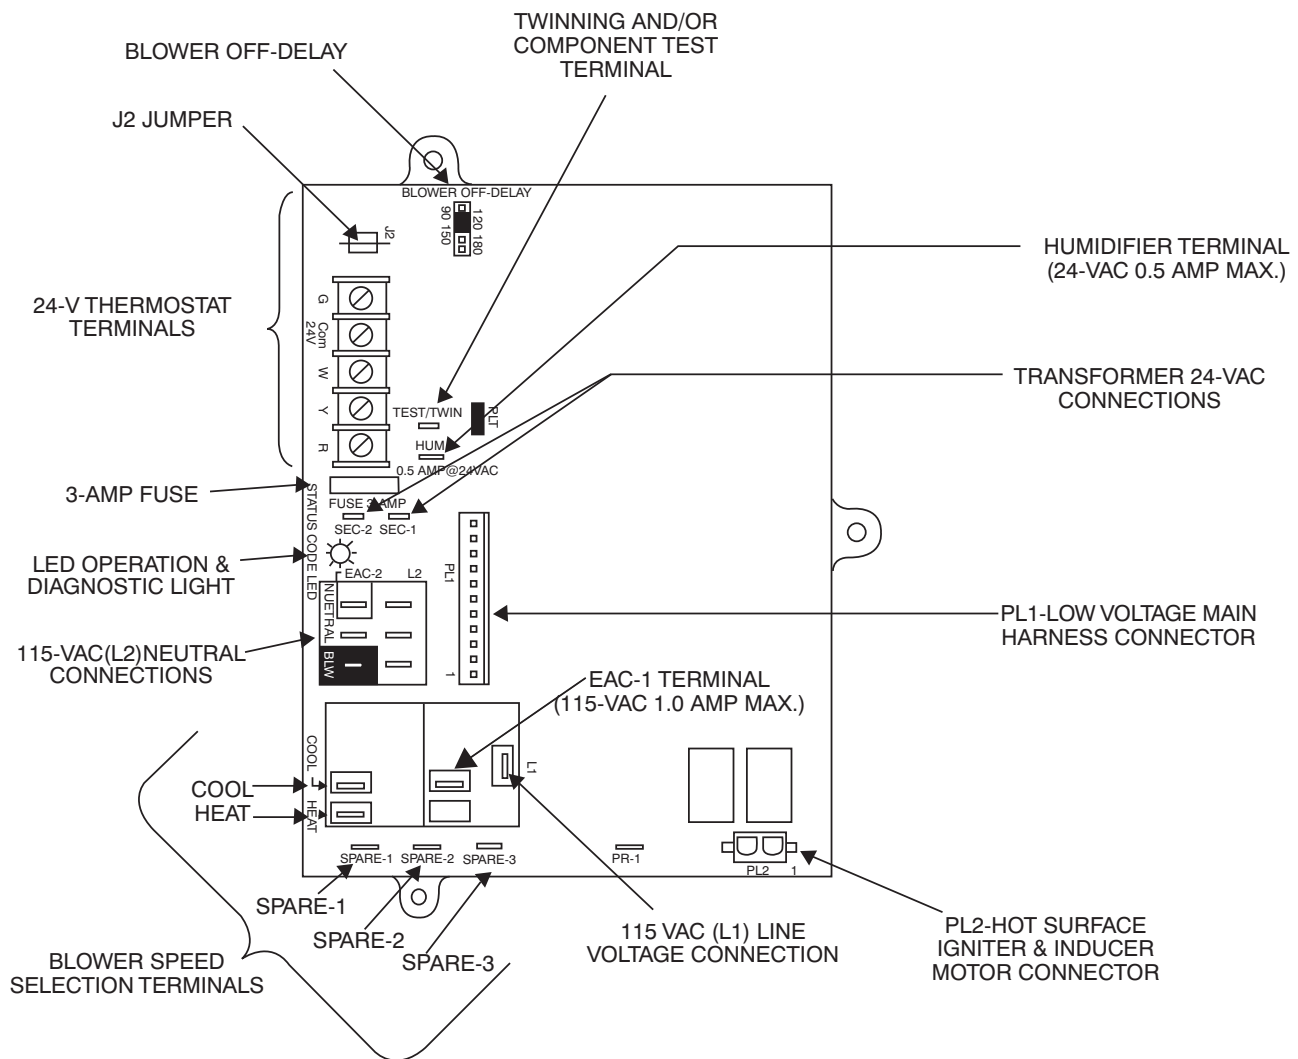
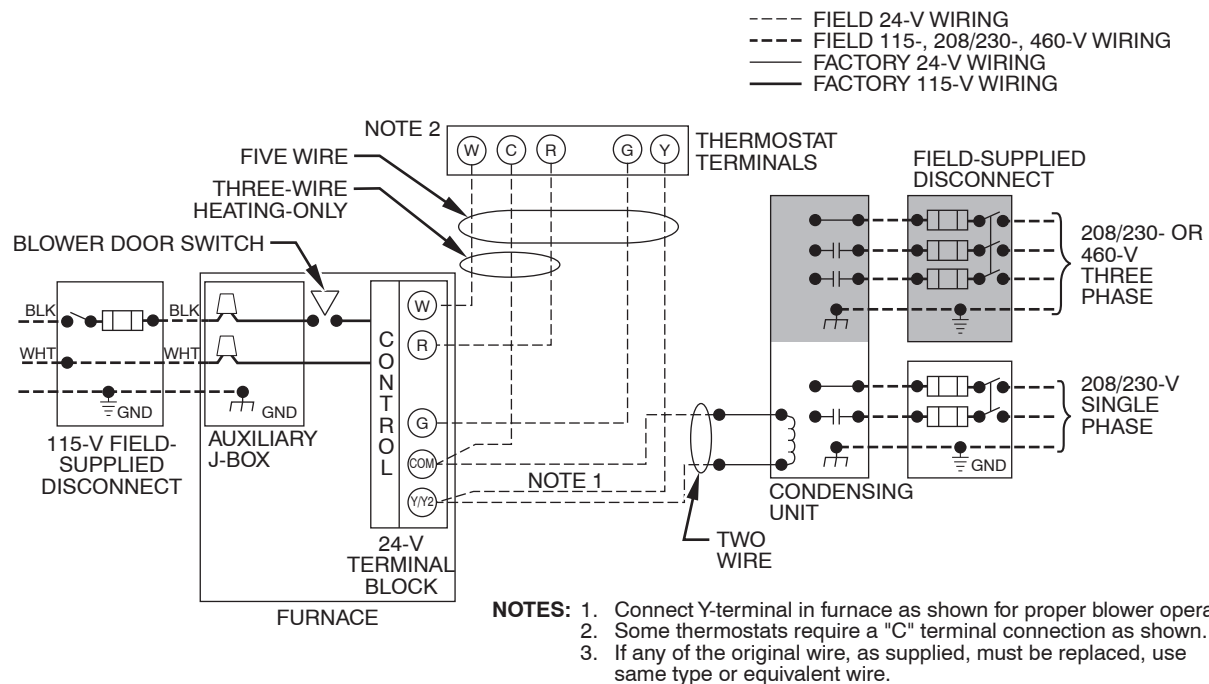

Fig. 25 - Furnace Control
Fig. 26 - Heating and Cooling Application Wiring Diagram with Single Stage Thermostat
See Fig. 26 for field wiring diagram showing typical field 115-v wiring. Check all factory and field electrical connections for tightness.
5. Connect line voltage leads as shown in Fig. 26.
12. Complete electrical box wiring and installation. Connect line voltage leads as shown in Fig. 26. Use best practices (NEC) for wire bushings, strain relief, etc.
Make field 24-v connections at the 24-v terminal strip. (See Fig. 25.) Connect terminal Y as shown in Fig. 26 for proper cooling operation. Use only AWG No. 18, color-coded, copper thermostat wire.